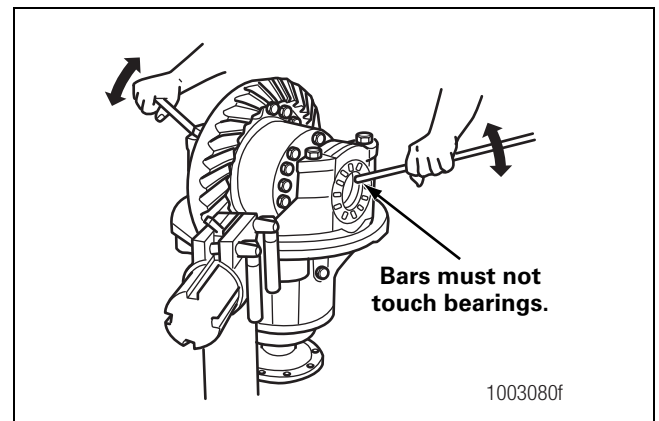

Figure 5.37
- A. Insert two pry bars between the bearing adjusting rings and the ends of the differential case. The pry bars must not touch the differential bearings. Figure 5.37.